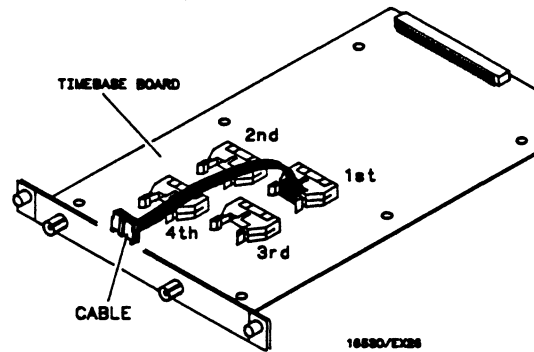

Figure 4-20. Cable Position
- h. Lay cable flat and pointing out to rear of card. See figure 4-20.